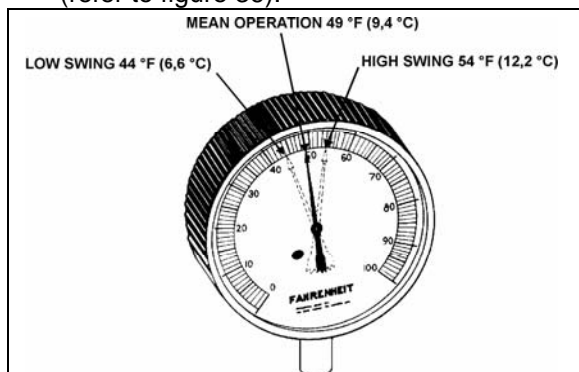

FIGURE 36: HIGH & LOW SWING TEMPERATURE AT REMOTE BULB 22047
6. Check approximately 5 readings of pressure at 2-minute intervals and convert to temperature using the vapor-pressure table (page 36). Likewise check the temperature reading at the remote bulb at the same 2-minute intervals and record the low and high swing readings of the needle (refer to figure 36).